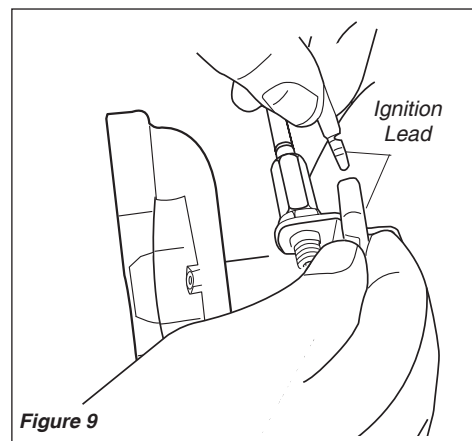

Figure 9
3. Connect the two ignition wires by pushing the bullet connectors together. See Figure 9.